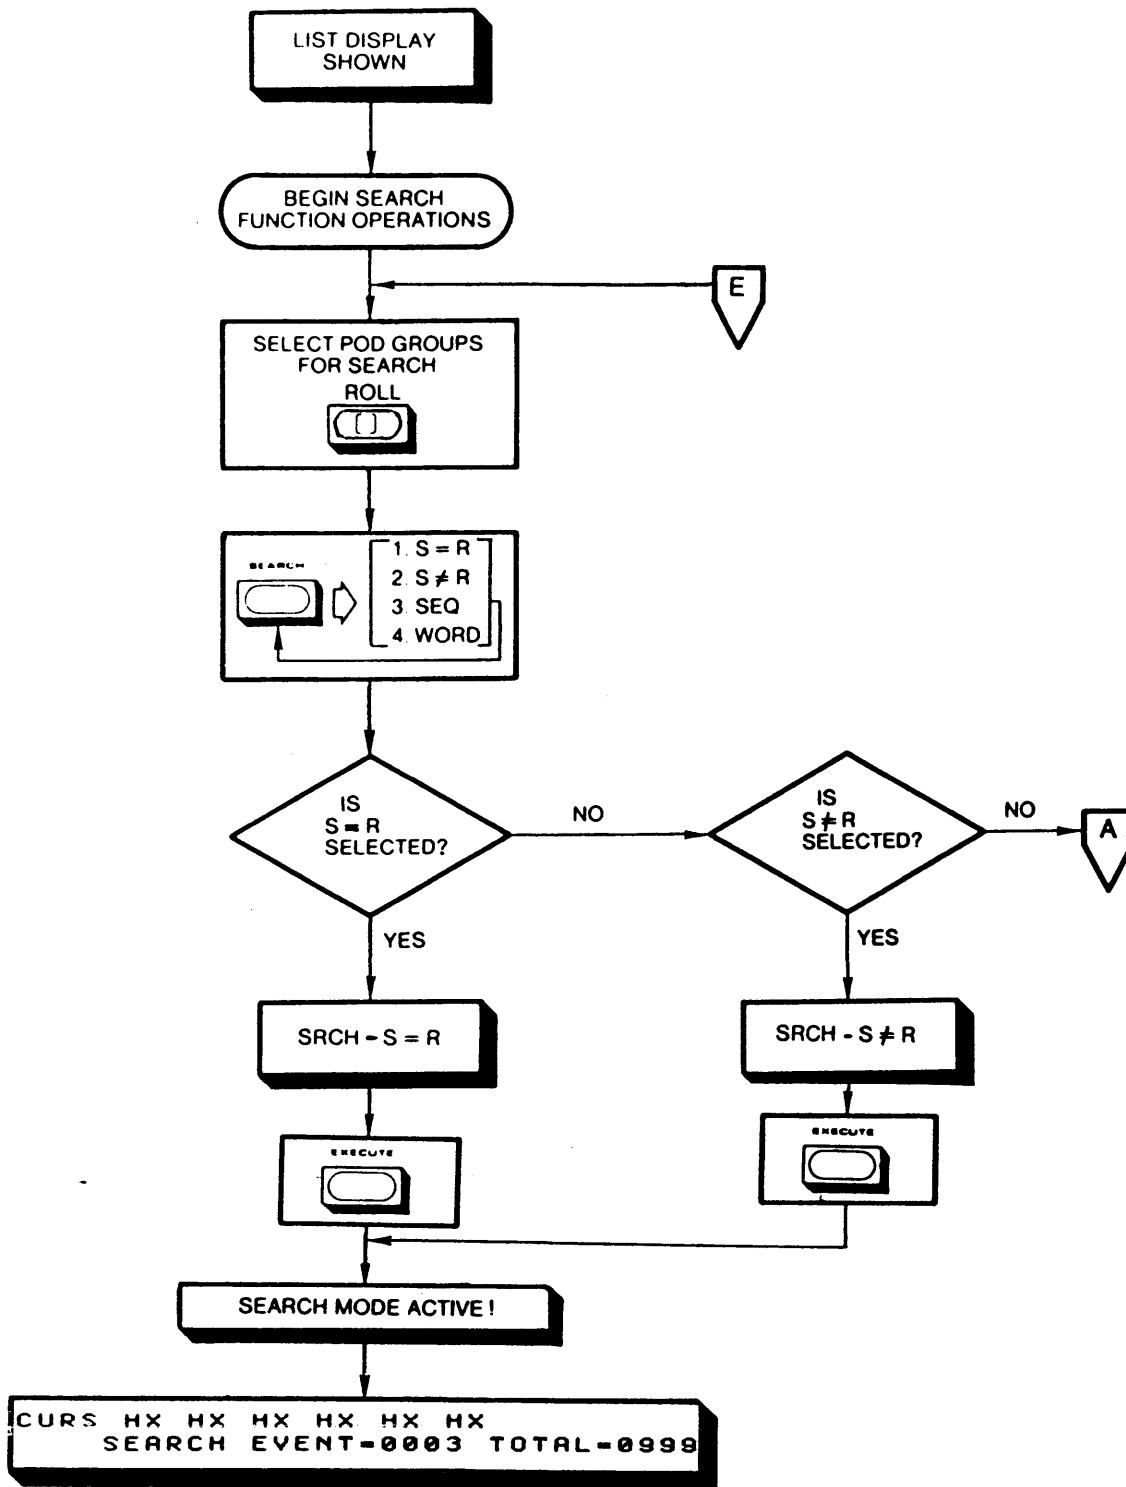

FIGURE 5-39A. LIST DISPLAY SEARCH
**5.5.8.1 S = R.** When this function is selected, the analyzer executes a search in the range of the allowable area (either 1K or 2K formats). It searches for conditions when the Source memory equals the Reference memory. During this time, it displays the number of search cycles (SEARCH EVENT) and the total number of times the condition is true (TOTAL). See Figure 5-39A for operating details.
**5.5.8.2 S ≠ R.** This function operates in the same way as the S = R function, except that the analyzer looks for unequal conditions between the Source and Reference memories. See Figure 5-39A for operating details.